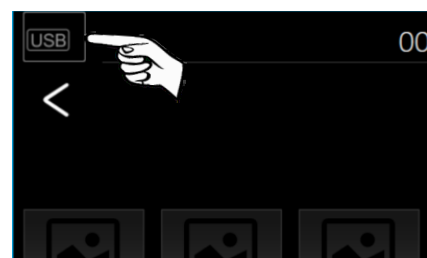

Fig.5
**Note:** A special case is the situation when the JRDAB-04 module has a resolution of 800x480 and was installed in a car with a screen resolution of 400x240, 5.7 ". In such a situation, touch and hold for 4 seconds the space in the upper left corner of the screen Fig. 5. to call up the resolution selection window. It does not apply to the appearance of Seat.